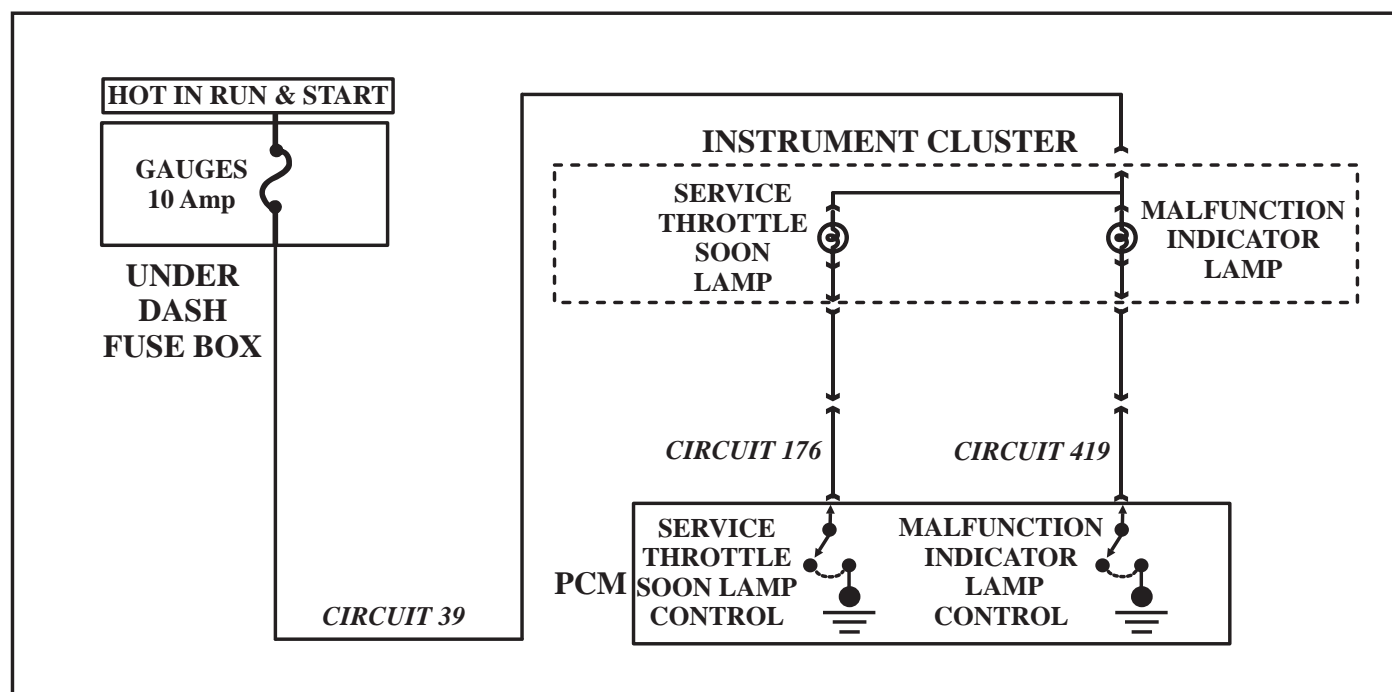

Figure 69
- The 10 Amp Gauge fuse is blown, (Refer to Figure 69).
- Circuit 39 is open or shorted, (Refer to Figure 69).
- Circuit 176 is open or shorted, (Refer to Figure 69).
- The PCM lamp driver is not pulling the circuit to ground, and is faulty, (Refer to Figure 69).
- Circuit 419 is open or shorted, (Refer to Figure 69).
- The 10 Amp “Gauge” fuse supplies system voltage to Circuits 176 and 419, (Refer to Figure 69).
- The PCM pulls this voltage to ground on Circuits 176 and 419, (Refer to Figure 69).
- Check Circuits 176 or 419 for the presence of ground or voltage, (Refer to Figure 69).